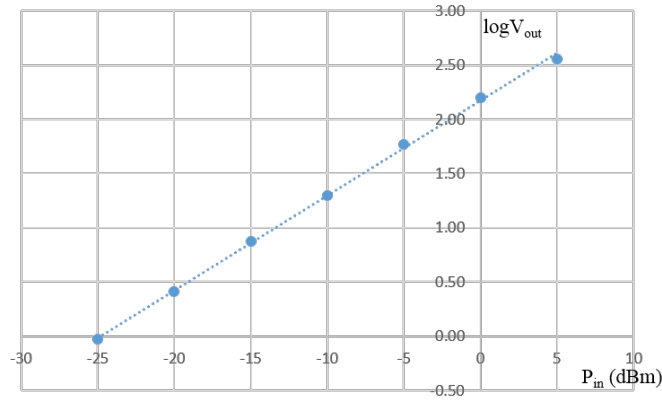

Figure 4: An example of best line-fit data to show “square-law” region
2. From your curve of RF power into the detector vs. DC voltage out of the detector, determine the “square-law” range of your detector (it is recommended that you would perform a best-line-fitting on the data to show its linearity)¹. Figure 4 shows an example. What is the measured slope of the detector in the square-law region? How does the measured curve compared with what you would expect from a detector (discuss about different ranges of the input power: too low, too high, neither low nor high power regions)? How is it compared to the datasheet [1]?
1. Write down the slope and the intercept to help you plot the “square-law” region of the 8474B detector, similar to Figure 4. Why is it important to determine the “square-law” region for the detector?